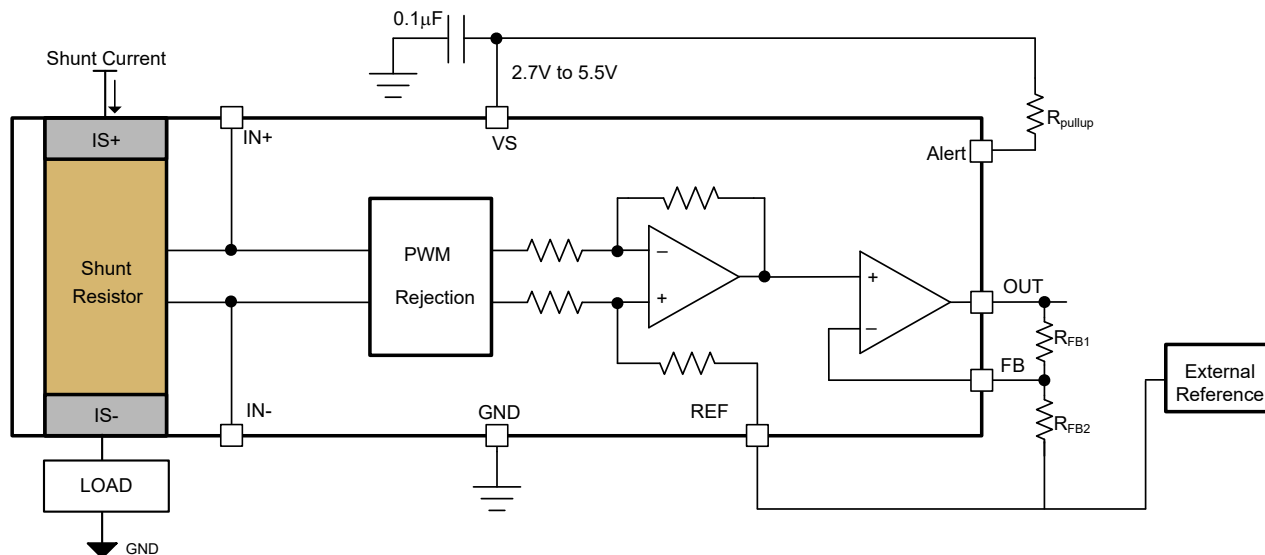

Figure 6-8. Adjustable Gain Setting With External Resistor Divider
The INA790x features adjustable gain with two external resistor network. The default gain is 20mV/A, and with added external adjustable gain resistor network, total gain (G) can range up to 400mV/A. Figure 6-8 shows two external resistors R_{FB1} and R_{FB2} configured for added external gain. Equation 2 can be used for calculating external adjustable gain and Equation 3 shows the total gain of the system with external adjustable gain. The REF pin and one end of resistor R_{FB2} is connected to external reference based on needed voltage at OUT pin as described in Adjusting the Output With the Reference Pin.